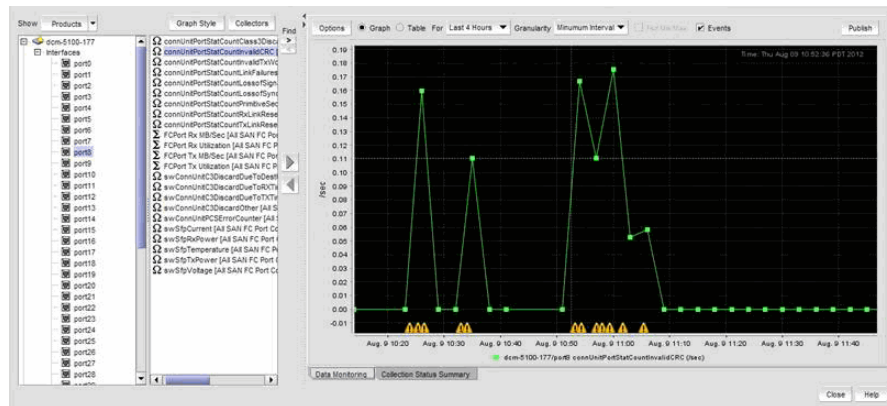

FIGURE 420 Show events graph
- **Show Events** - Select to display advanced monitoring service (AMS) violation events received during the chart time range and master log events logged on the same product as the measure being plotted. Each event will be represented by the same severity icon that is shown in the master log (refer to icons a bottom of following graph). Hovering the cursor over the icon displays details of the violation, such as violation time, switch/port information, violated rule name, and violated rule condition. Monitoring and Alerting Policy Suite (MAPS) violations are plotted for a product or port level measure (whichever is selected) during the plotted time range. The show events graph is shown in Figure 420 on page 985